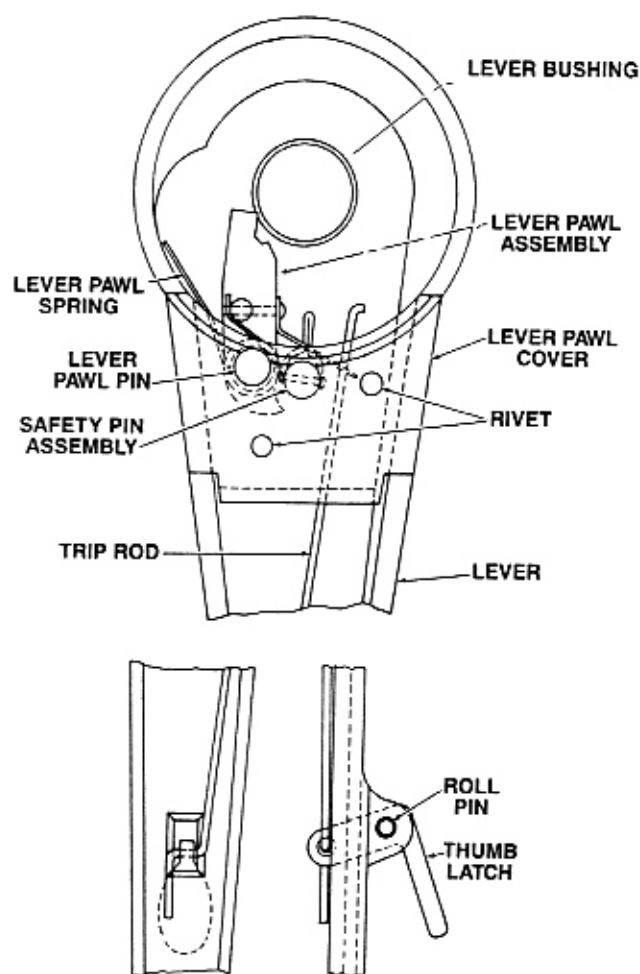

FIGURE 4-3. LEVER ASSEMBLY
g. Refer to figure 4-3 and assemble lever assembly (-6) as follows:
- 1) Press lever bushing (12) into lever (10).
- 2) Apply a light coating of grease, Duff-Norton H-7613, or equivalent, to safety pin spring (20) and safety pin assembly (19). Place spring on safety pin assembly, insert safety pin assembly through lever (10)